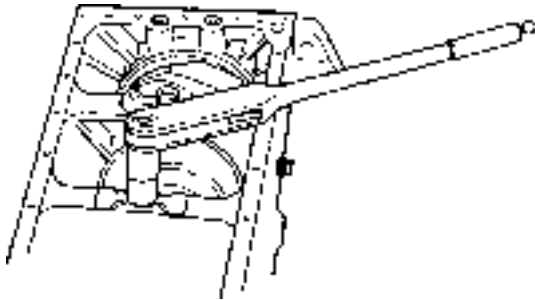

Fig. 71. Dismantling of main bearing cap
6. Remove the lock screws which hold the main bearing cap (Fig. 71). Carefully lift off the crankshaft complete with cap backwards.